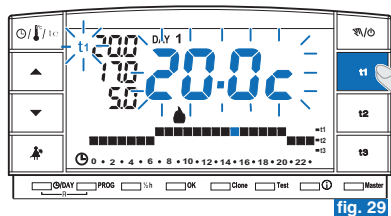

fig. 29
- Press the set temperature key to be limited (t1 or t2). The selected symbol (t1 or t2) and the central digits with corresponding temperature will blink (example in fig. 29).